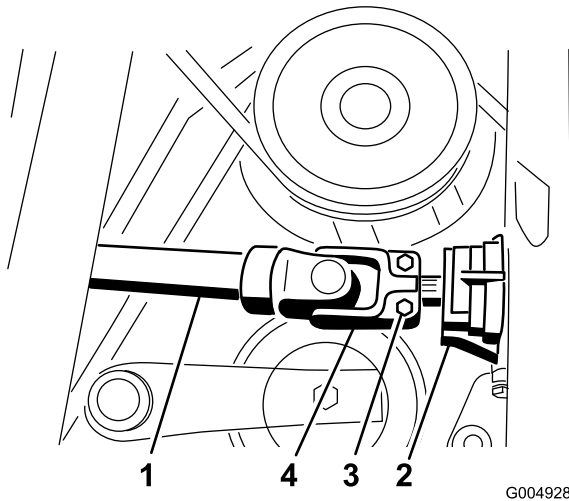

Figure 102
10. Remove the roll pin and loosen the two capscrews securing the drive shaft to the gearbox shaft (Figure 102). Slide the drive shaft off the gearbox shaft.